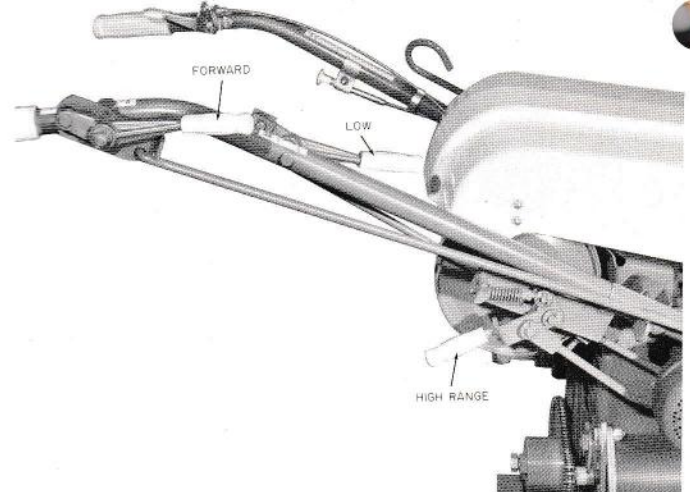
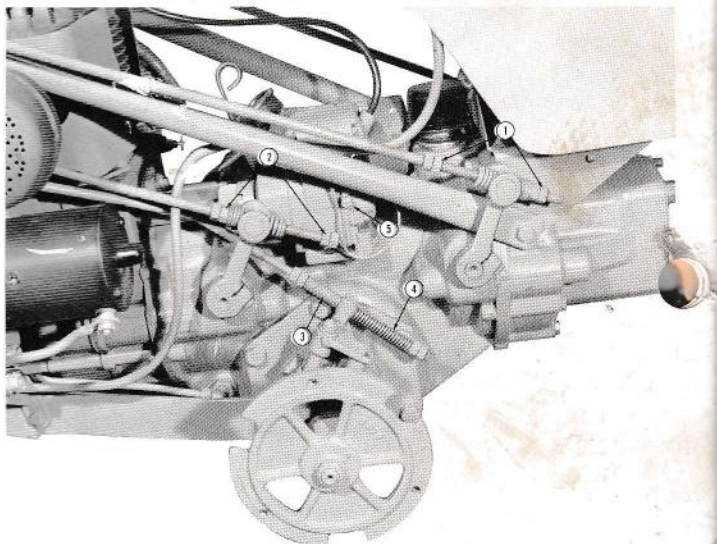

Figure 3
Figure 7
If the tractor is equipped with the optional eight speed transmission, the Range Selection Lever should be in the position for the range in which the tractor will be operated initially. Engaging wheels — To put tractor in motion, first move the high-low control lever to either the high or low position (Figure 3). Then move the forward-reverse control lever into forward or reverse. Depress the throttle to the desired speed.
- ... Ignition stop button is shorted out. To test, remove the ground wire from the magneto stop button and attempt to start the engine. See service manual or call your dealer. (See 5, figure 7).
Clutch Rods — To adjust clutches, tighten the lock-nuts, 1 and 2 in Figure 7, until the clutch rod springs are compressed fully as each lever goes over center.
Range Selection Linkage — The toggle spring (located by the range lever) occasionally may require adjustment by tightening the hex nuts on the toggle rod until the spring is compressed to 15/16 inch. (Figure 3 & 4. To adjust springs, (3 and 4 in Figure 7), have the range selection lever engaged fully in high or low range, move the hex nuts (1 and 2 in Figure 7) on the spring rod until each spring is compressed to 2½ inches.